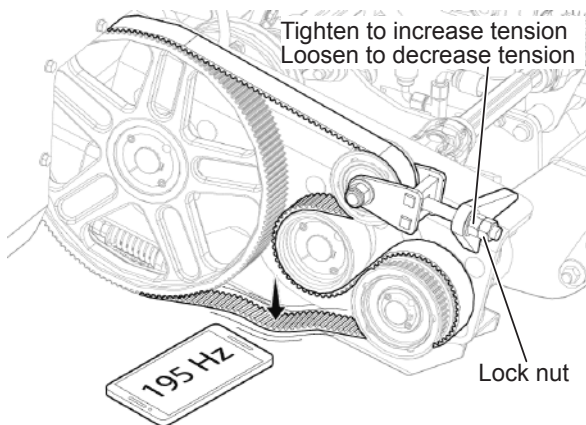

Fig. 98 - Feed Auger Drive Belt Tension Adjustment
5. Take note of the belt orientation and how it is fed through the pulleys. Remove the old belt and install the new belt. See Fig. 98 on page 85 for belt orientation.